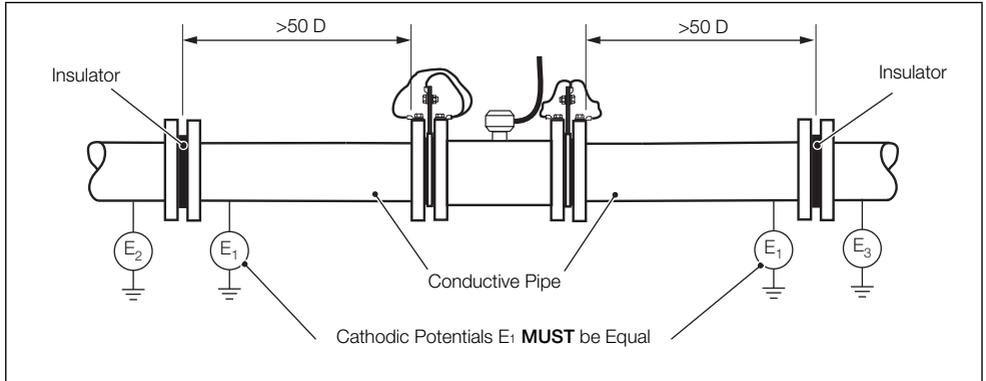

Fig. 3.4 Cathodic Protected Installations with Different Cathodic Potential Generators
**Note.** The grounding arrangement shown in Fig. 3.4 is applicable only to: